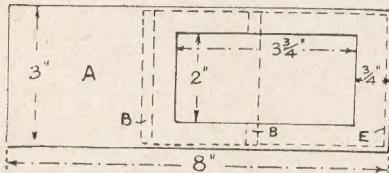
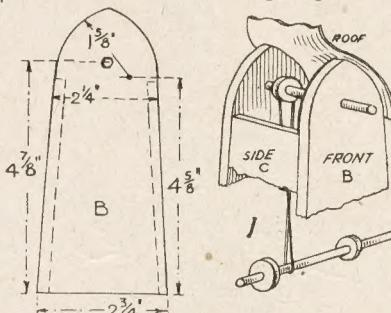
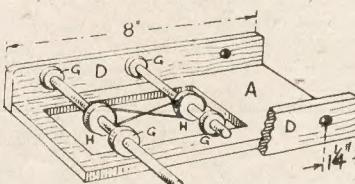

Fig. 1—Outline of floor and opening
Fig. 2—How to mark out shape of sides
Fig. 3—How the sails are driven from the axles
The first part to make will be the floor (A) shown in Fig. 1. Mark this out in pencil direct on to wood and cut with the fretsaw. Follow this by setting out and cutting the front and back walls (B) of the mill, see Fig. 2. Having made one piece, lay it on a second and mark round it to get the exact duplicate shapes. See the holes for the axles of the sails are identical on both pieces.
Next make the sides (C) of the mill. These are simply two pieces measuring 4 $\frac{1}{2}$ ins. by 2ins. They are glued between the front and back shown in Fig. 3 and by the dotted lines in Fig. 2. This completes the construction of the mill except for the roof which will be added later.
It might, however, be said now that the roof can be formed from tin or stout card bent to the pointed shape of the front and back and pinned on. A detail of part of the roof is shown in Fig. 3.
It will be observed from Fig. 1 that the mill itself is glued and nailed or screwed to the top of the floor in the position shown by the cross dotted lines (B). There is an open space left